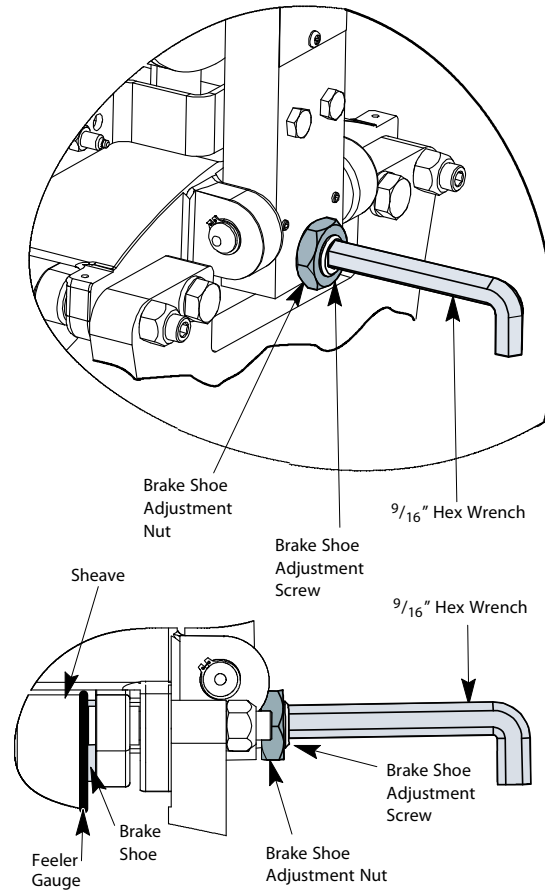

Figure 21 - Brake Pad Adjustment
6. Turn the wrench until the brake shoe just contacts the feeler gauge. See Figure 21 on page 28.
9. Remove the shipping fastener, the M16 x 90 mm screw, and the M16 washer. See Figure 21 on page 28.